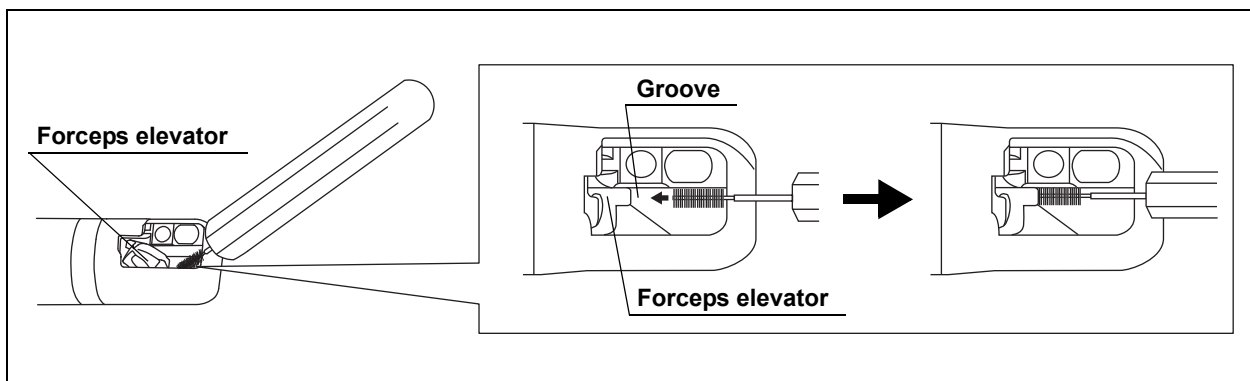

Figure 5.28
7. Insert the brush head slowly into the groove under the forceps elevator until the end of the brush touches the wall behind the elevator. (See Figure 5.28)
To avoid damage to the brush, make sure that the brush is gently inserted into the groove under the forceps elevator shown as "Groove" in Figure 5.28.